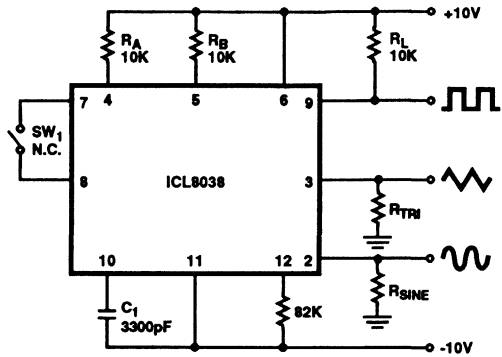

FIGURE 1.
5. Figure 1, pins 7 and 8 connected, $V_{SUPPLY} = \pm 10V$. See Typical Curves for T.C. vs V_{SUPPLY} .